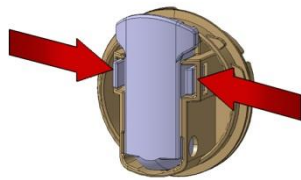

Fig. 2
- Press the two tabs that secure the closing lever to the plug Fig. 2.